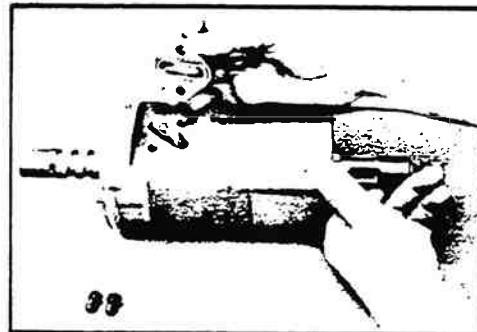
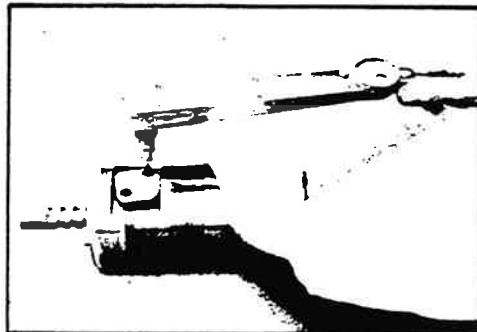

Figure 11-66. Installing Guide Cap Seal.
Figure 11-67. Bolt Tightening.
10. Grease the ball return guide cap seal (4f) and place it in the ball return guide cap (4e) groove. Assemble the ball return guide cap so that the seal is in full contact with the rack piston (10) surface (figure 11-66). Install the two Allen head bolts (4d) and tighten them to 15-19 ft. lbs. (20-26 Nm) (figure 11-67).